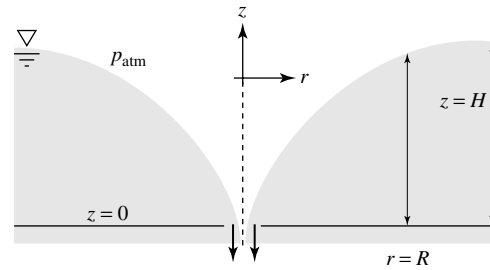

Fig. P4.60
**4.60** Liquid drains from a small hole in a tank, as shown in Fig. P4.60, such that the velocity field set up is given by  $v_r \approx 0$ ,  $v_z \approx 0$ ,  $v_\theta = \omega R^2/r$ , where  $z = H$  is the depth of the water far from the hole. Is this flow pattern rotational or irrotational? Find the depth  $z_0$  of the water at the radius  $r = R$ .